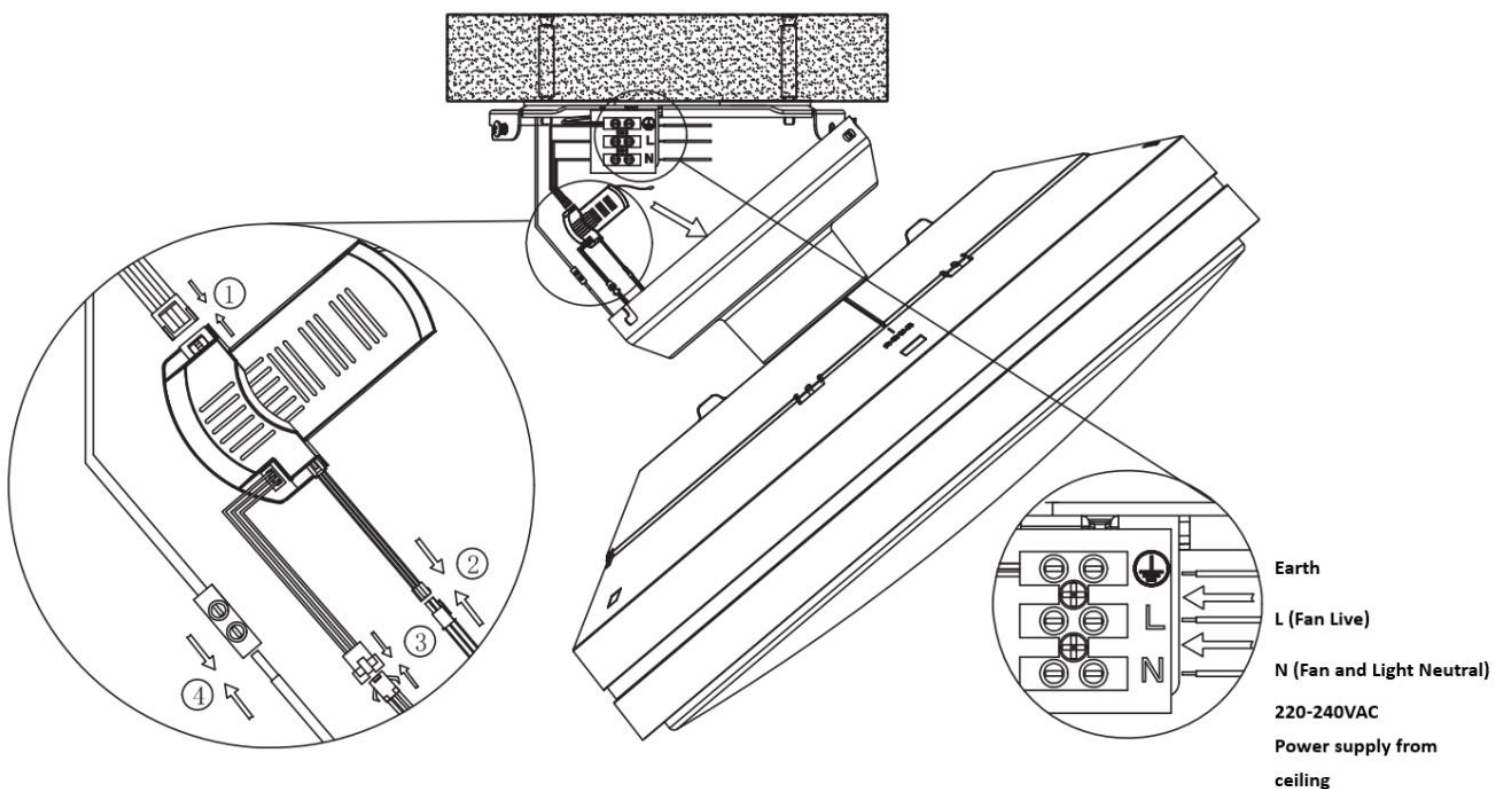

Fig. 6
**PREPARE AND COMPLETE THE ELECTRICAL WIRING --- WIRING DIAGRAM (FIG. 6)**
**NOTE:** Ensure the motor earth wire is connected to the single earthing terminal block in the diagram below. (Fig. 6)
**From mains supply to mounting bracket terminal block: (Fig. 6)**
**From mounting bracket to receiver and motor: (Fig. 6)**